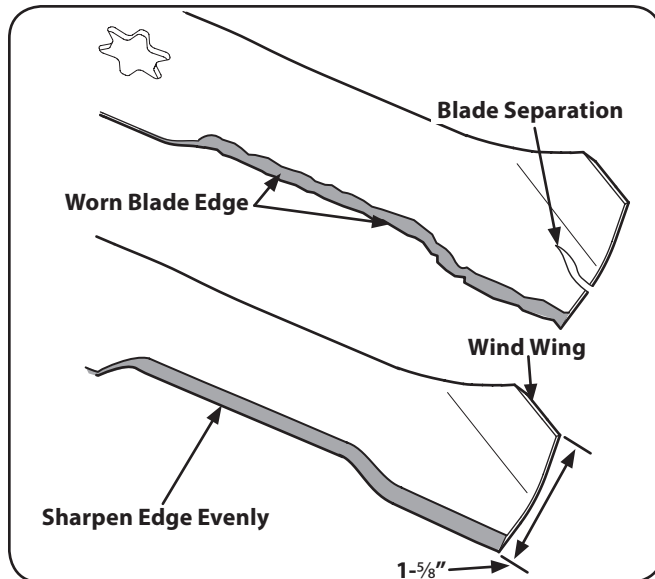

Figure 7-3
**NOTE:** If the cutting edge of the blade has already been sharpened to within 1-5/8" from the edge, or if any metal separation is present, replace the blades with new ones. See Fig. 7-3.